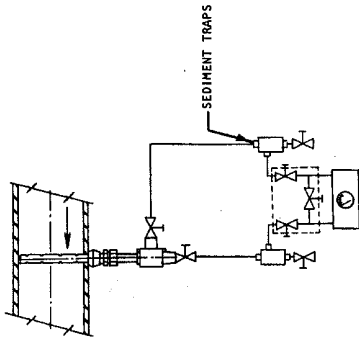

FIGURE 1.6 GAS
1.2.2.2 For installations where condensation or entrained liquids accumulate in the instrument piping, it is recommended that the instrument be mounted above the Accutube or install the Accutube in the top portion of the line. If mounting the instrument below the Accutube is necessary, then sediment traps and/or drain valves should be used as in Figure 1.6.